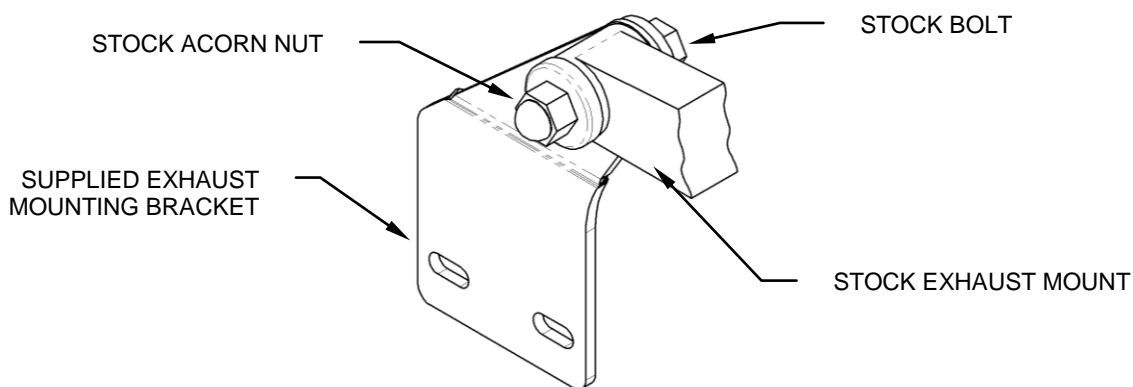

FIGURE 1
2. Remove the exhaust-mounting bracket from the box and attach it to the stock exhaust/passenger footpeg mount as shown in Figure 1. **DO NOT TIGHTEN** at this time.